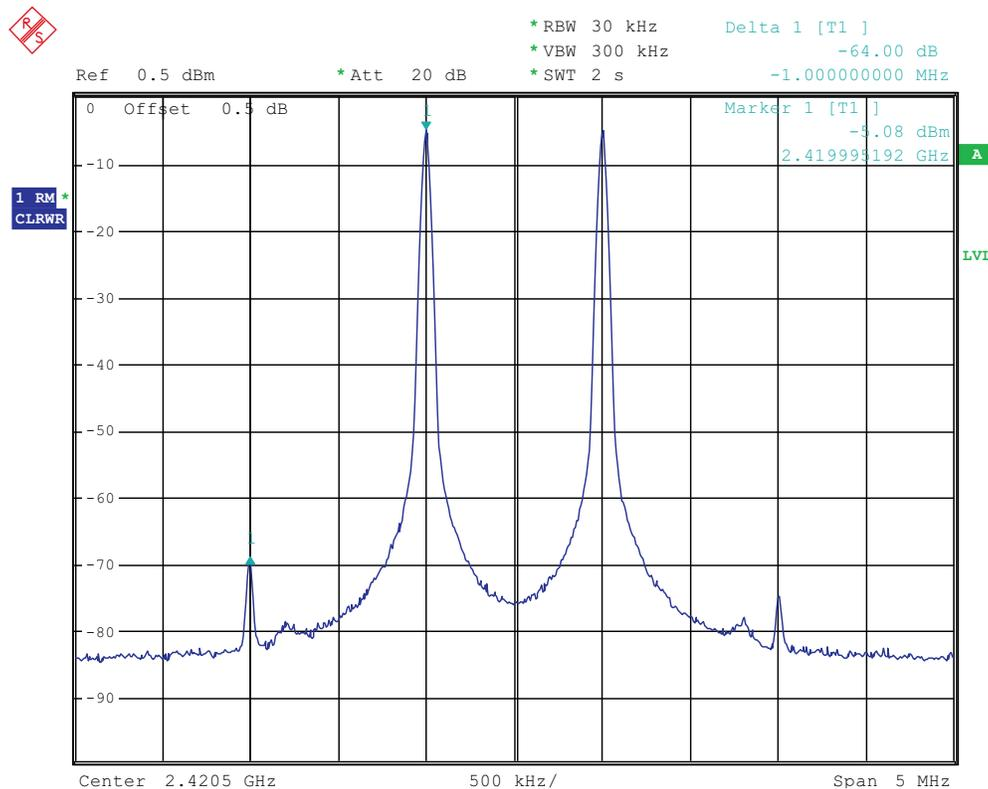
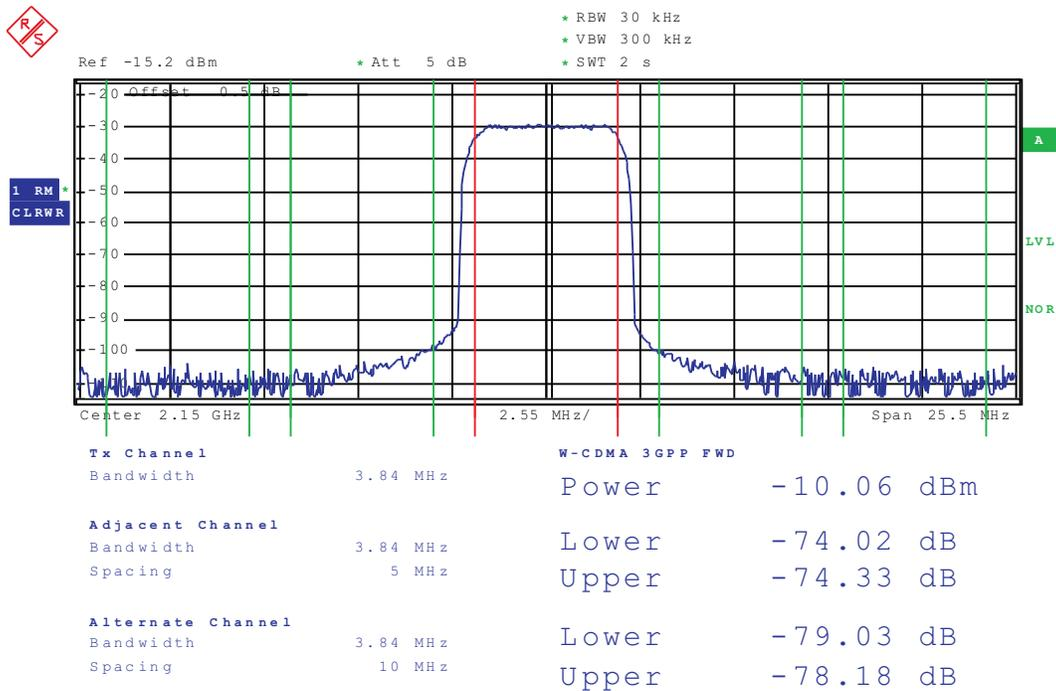
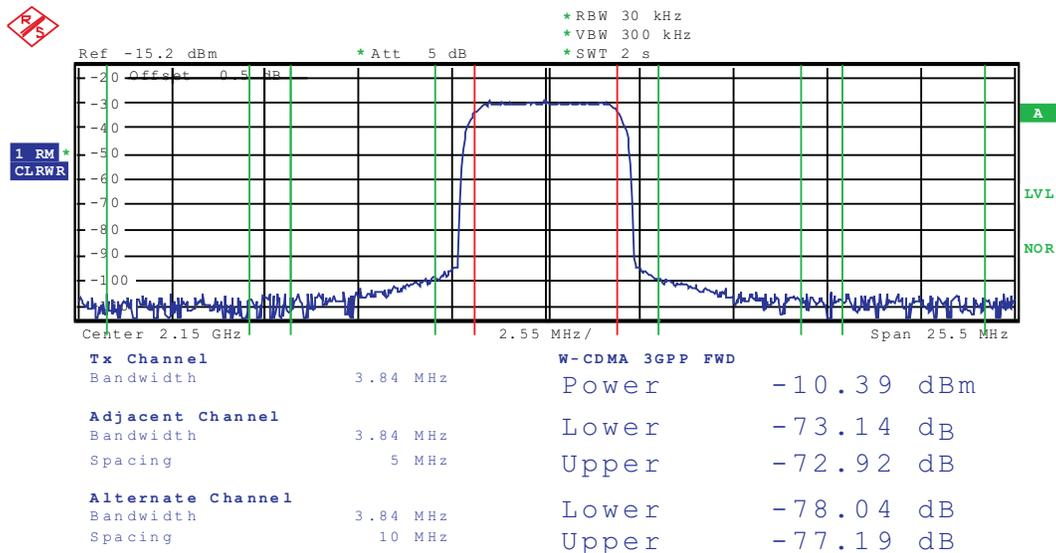

Figure 6. Two-Tone IMD Performance: LO = 2400 MHz, DAC Clk = 614.4 MHz, 2x Interpolation, IF = 20, 21 MHz
Figure 7. WCDMA ACPR: LO = 2120 MHz, DAC Clk = 614.4 MHz, 2x Interpolation, 30-MHz Offset
Figure 8. WCDMA ACPR: LO = 1966.4 MHz, DAC Clk = 614.4 MHz, 2x Interpolation, $f_s/4$ mixing, 30-MHz Offset
7. Monitor the output signal at the RF output connector. If default LO frequency of 2400 MHz is used and the TSW3100 is set up with two tones at 20 MHz and 21 MHz, then the tones seen in Figure 6 are at 2420 MHz and 2421 MHz.
Figure 6, Figure 7, and Figure 8 show the typical two-tone and ACPR performance of the DAC3283 EVM from the setup in Section 3.4. This performance incorporates the DAC device and the TRF372017 modulator device.